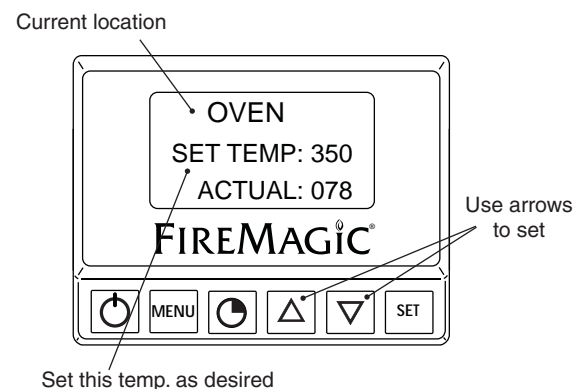

Fig. 20-4 Location temp. screen (oven shown)
2. The selected location's temperature screen will be displayed. Use the arrows to set the desired temp. The actual temp. will also be shown. (See Fig. 20-4)